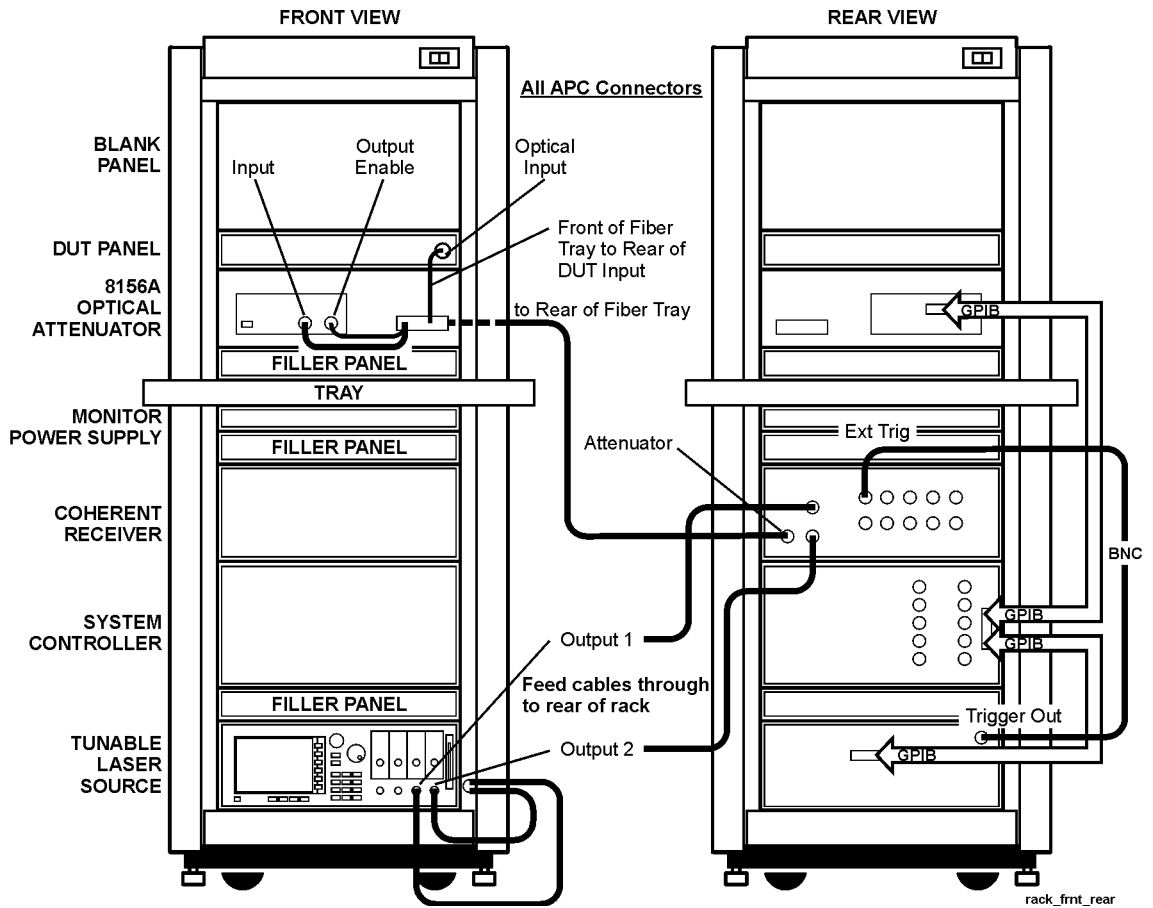

Figure 1-3. Agilent 83453A Cabling Configuration
- 2** Connect the monitor cables from the power module to the monitor. The power module is attached to the tray located just below the work surface area. Refer to Figure 1-3 on page 1-11.
- 1 Confirm the cabling of the Agilent 83453C HRS system. Refer to Figure 1-3 on page 1-11 and the table below.